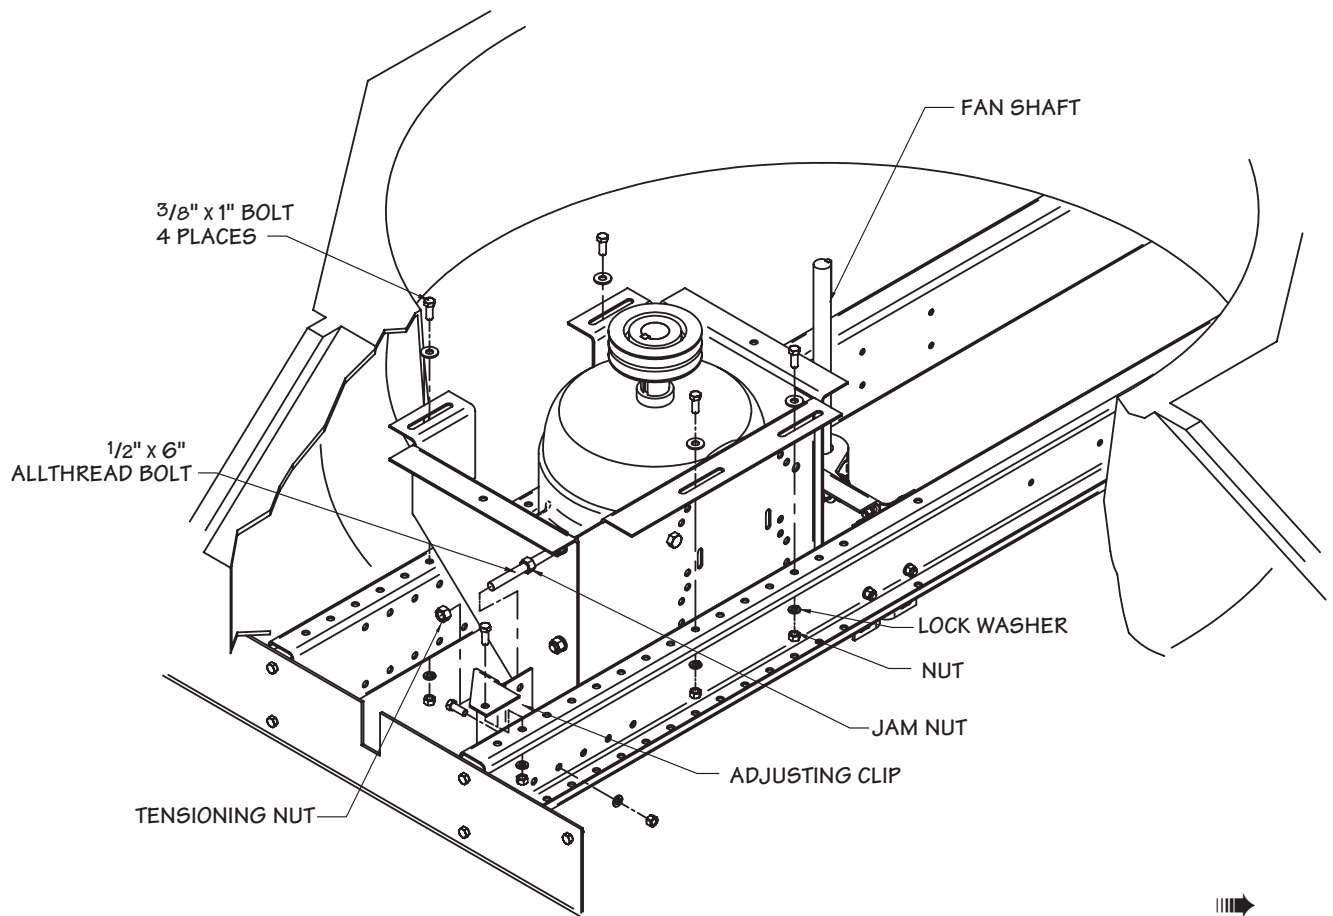

Figure 3 Model P12
2. Install motor assembly on tower cross beams as shown in Figure 3. Slide toward the fan shaft assembly. Do not install bolts yet.
4. Install belts on the lowest set of grooves. Slide the motor assembly away from fan shaft and to remove belt slack and install bolts in tower cross beams. Do not tighten at this time. Install the 6" all-thread bolt on the motor plate and adjusting clip as shown in the Assembly Details and Figure 3 or Figure 3A. Adjusting clip may have to be relocated to another set of holes. Tighten the tensioning nut on the all-thread bolt at the adjusting clip to tension belts. Proper tension is achieved when a belt deflects about $\frac{1}{4}$ " under a force of 5 to 7 pounds. Tighten jam nut against the adjusting clip to lock adjustment. Tighten bolts in tower cross beam.